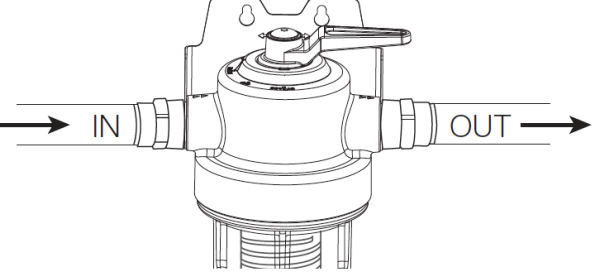

Figure 5
10. Turn filter head valve to "FILTER" mode (see Figure 5) and slowly turn on main water supply and check for leaks. Run water for 5 minutes with an open faucet to flush out air.